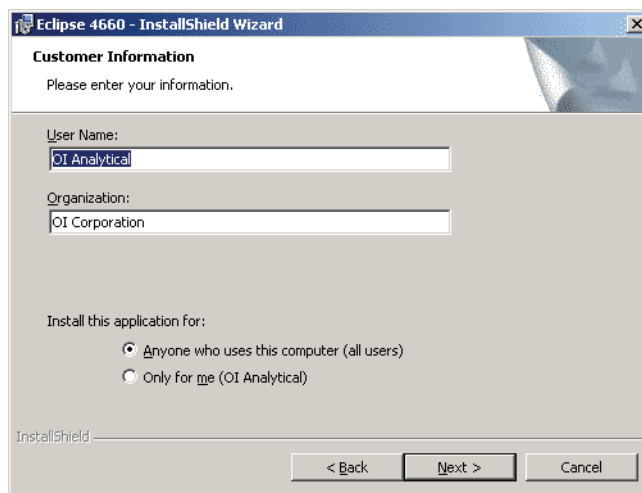

Figure 3.16. Customer Information screen
5. The Customer Information screen (Figure 3.16) appears during installation. Enter the appropriate information.